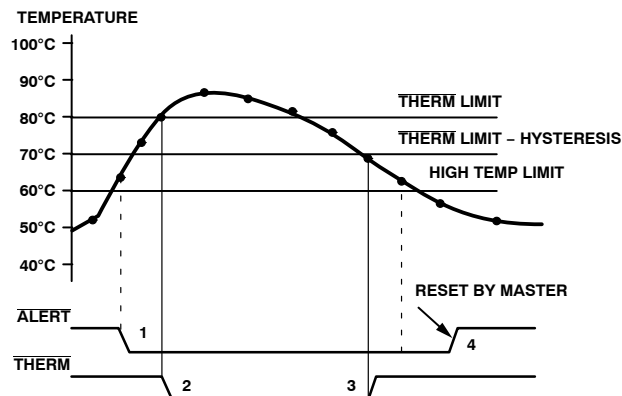

Figure 14. Operation of the $\overline{\text{ALERT}}$ and $\overline{\text{THERM}}$ Interrupts
Figure 14 shows how the $\overline{\text{THERM}}$ and $\overline{\text{ALERT}}$ outputs operate. The $\overline{\text{ALERT}}$ output can be used as a $\overline{\text{SMBALERT}}$ to signal to the host via the SMBus that the temperature has risen. The user can use the $\overline{\text{THERM}}$ output to turn on a fan to cool the system, if the temperature continues to increase.
- The $\overline{\text{THERM}}$ output de-asserts (goes high) when the temperature falls to $\overline{\text{THERM}}$ limit minus hysteresis. In Figure 14, the default hysteresis value of 10°C is shown.